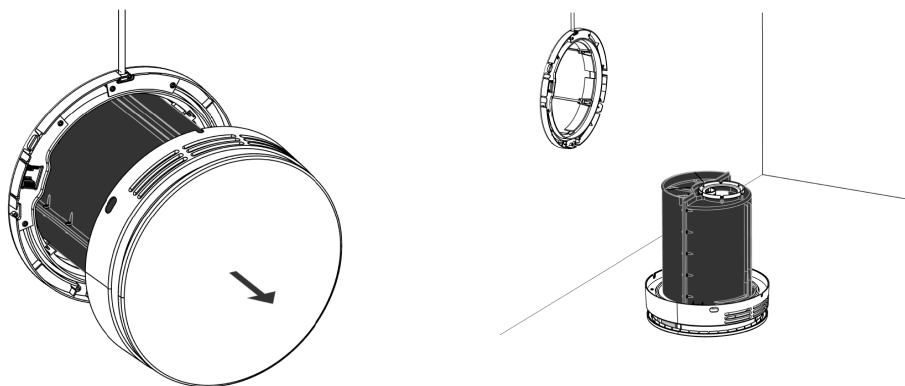

Figure 31 - Take the ventilation system out and place it down on the internal cover
4. Carefully pull the ventilation unit out of the wall and place it with the internal cover down on a level surface, e.g., a table or the floor, see Figure 31 below. It is important to place it on a level surface to avoid it falling over.